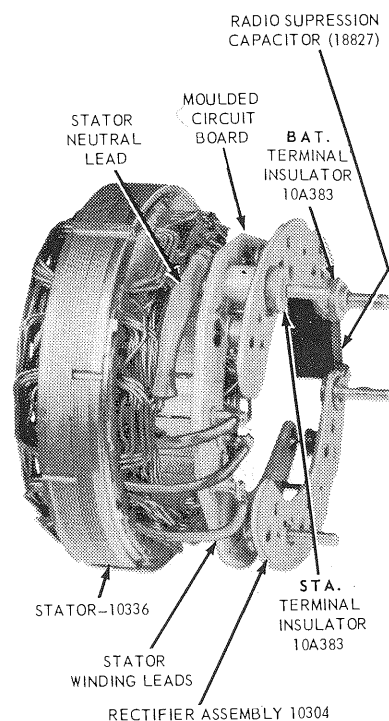
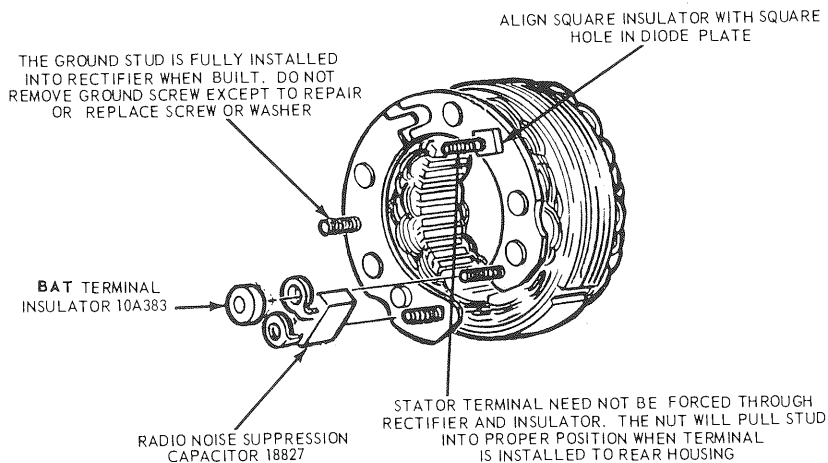

FIG. 21 Stator Lead Connections
FIG. 22 Terminal Insulators — Fiber Glass Circuit Board
9. Wrap the three stator winding leads around the rectifier terminals and solder them. Use a 100-watt soldering iron and rosin-core solder. Position the stator neutral lead eyelet on the stator terminal screw and install the screw in the rectifier assembly (Figure 21).
11. Position the radio noise suppression capacitor on the rectifier terminals. On the circuit board with exposed diodes, install the STA and BAT terminal insulators (Figure 21). On the single circuit board, position the square hole in the rectifier assembly (Figure 17). Position the BAT terminal insulator (Figure 22) on the BAT terminal.